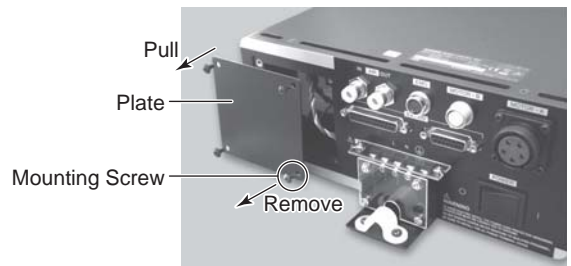

Fig. 21
- (2) Remove the screw from the Plate and pull the Plate from the CONTROLLER (Fig. 21).